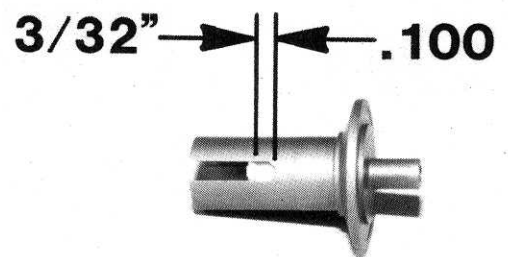

**Fig. 31**
**Figs. 31 & 32** Take out the #6578 left hand diff outrdrive hub and **make sure it's clean and free from all burrs**. Push the #6582 diff thrust spring into the hub and then align the plastic T-nut with the slots in the hub and push the T-nut all the way in against the spring.